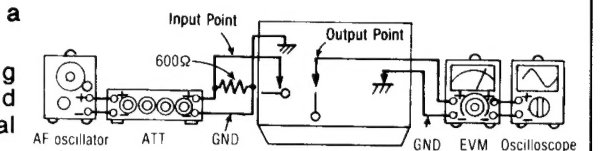

Fig. 6
1. Test equipment connection is shown in Fig. 6, and connect a jumper of TP6 (See page 7).
1. Test equipment connection is shown in Fig. 6, and connect a jumper of TP6. (See page 7.)
5. If it is not within the standard, adjust VR7 (L-CH) (VR8 (R-CH)) and repeat the step (2), (3) and (4) until the output is within the standard.